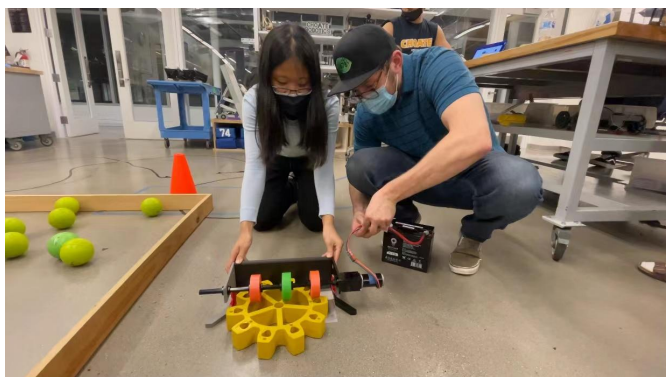

Figure 10. Testing Setup (part. 2)
- Figure 10. Testing Setup \(part. 2\)